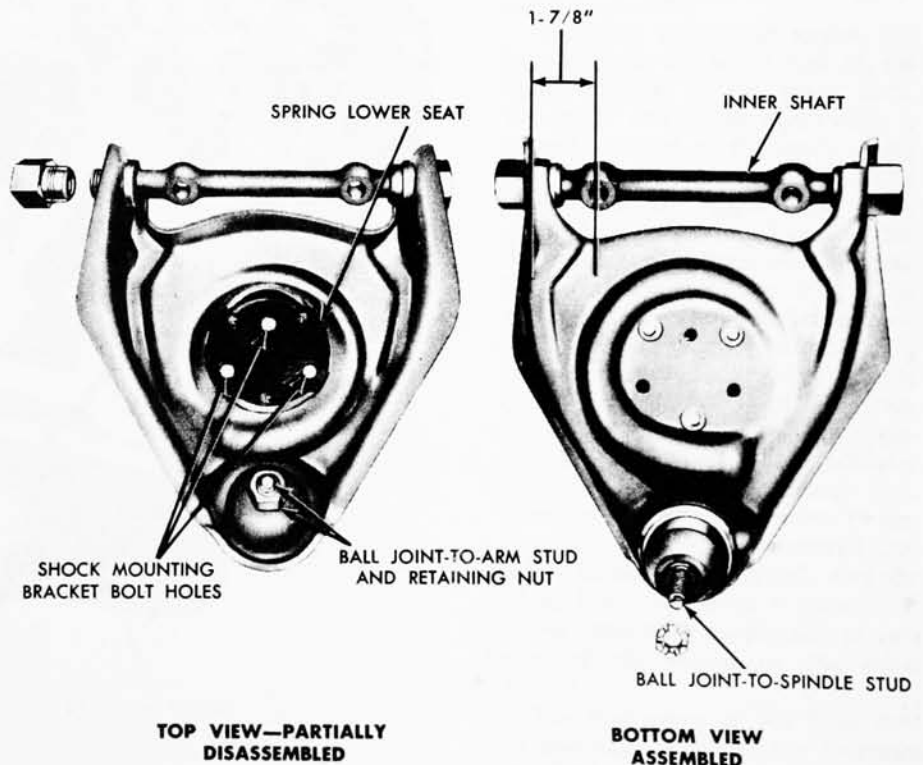

FIG. 14—Upper Suspension Arm
2. Position the shaft in the arm, apply grease to the new bushings, and install the bushings loose on the shaft and arm. **Turn the bushings so that the shaft is exactly centered in the arm.** The shaft will be properly centered when located at the dimension shown in Fig. 14.
1. Remove the ball joint-to-arm retaining nut and remove the ball joint from the upper arm (Fig. 14).
3. Install the retaining nut and torque to specifications (Fig. 14).